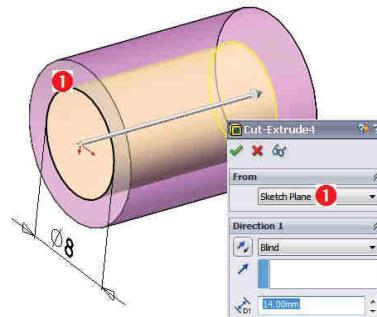

Fig. 2.53
**3** Trasare cerc decupare  $\phi 8$  mm: Comanda Sketch – Fig. 2.53 – plan **①**.
**4** Extrudare contur decupare  $\phi 4$  mm: comanda Extruded Cut – Fig. 2.53 - Blind /  $\Delta_{D1}$  14 mm distanță / .
**3** Sketching of the  $\phi 8$  cut circle: The Sketch command – Fig. 2.53 – plane **①**.
**4** Extrusion of the  $\phi 4$  mm cut circle: the Extruded Cut command - Fig. 2.53 – Blind /  $\Delta_{D1}$  14 mm distance / .